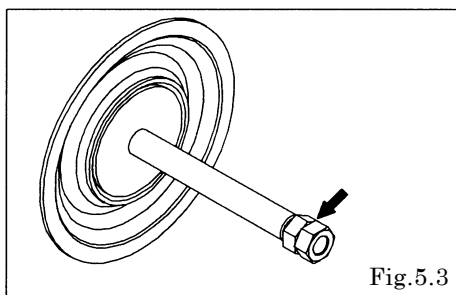

Fig.5.3
- Remove the nut on the opposite side using the double nut. Then, remove the coned disk spring, center disk and diaphragm. (excluding 500BS□) [Fig.5.3]
- Remove the center disk (outside) on the opposite side using the double nut. Then, remove the center disk (inside) and diaphragm. (only 500BS□) [Fig.5.3]